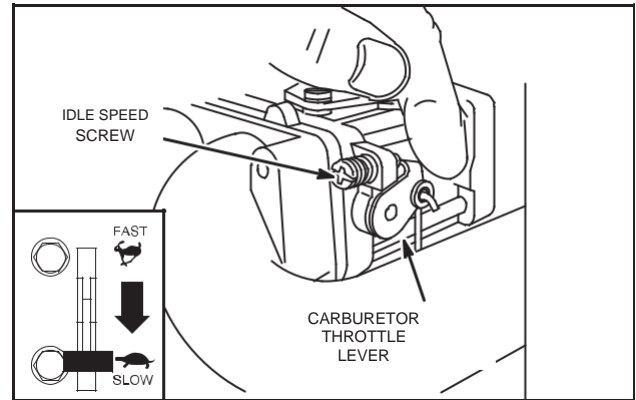

Fig. 22 - Adjusting Idle Speed
2. Hold throttle lever against idle speed adjustment screw and adjust idle speed to 1200 RPM, Fig. 22. Re-lease throttle lever.